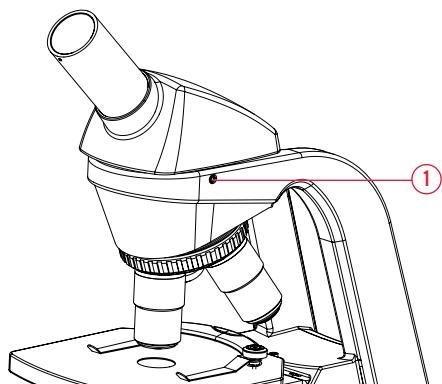

Figure 5a
- Unscrew the head lock screw and lift out the existing body tube. (Figure 5a)